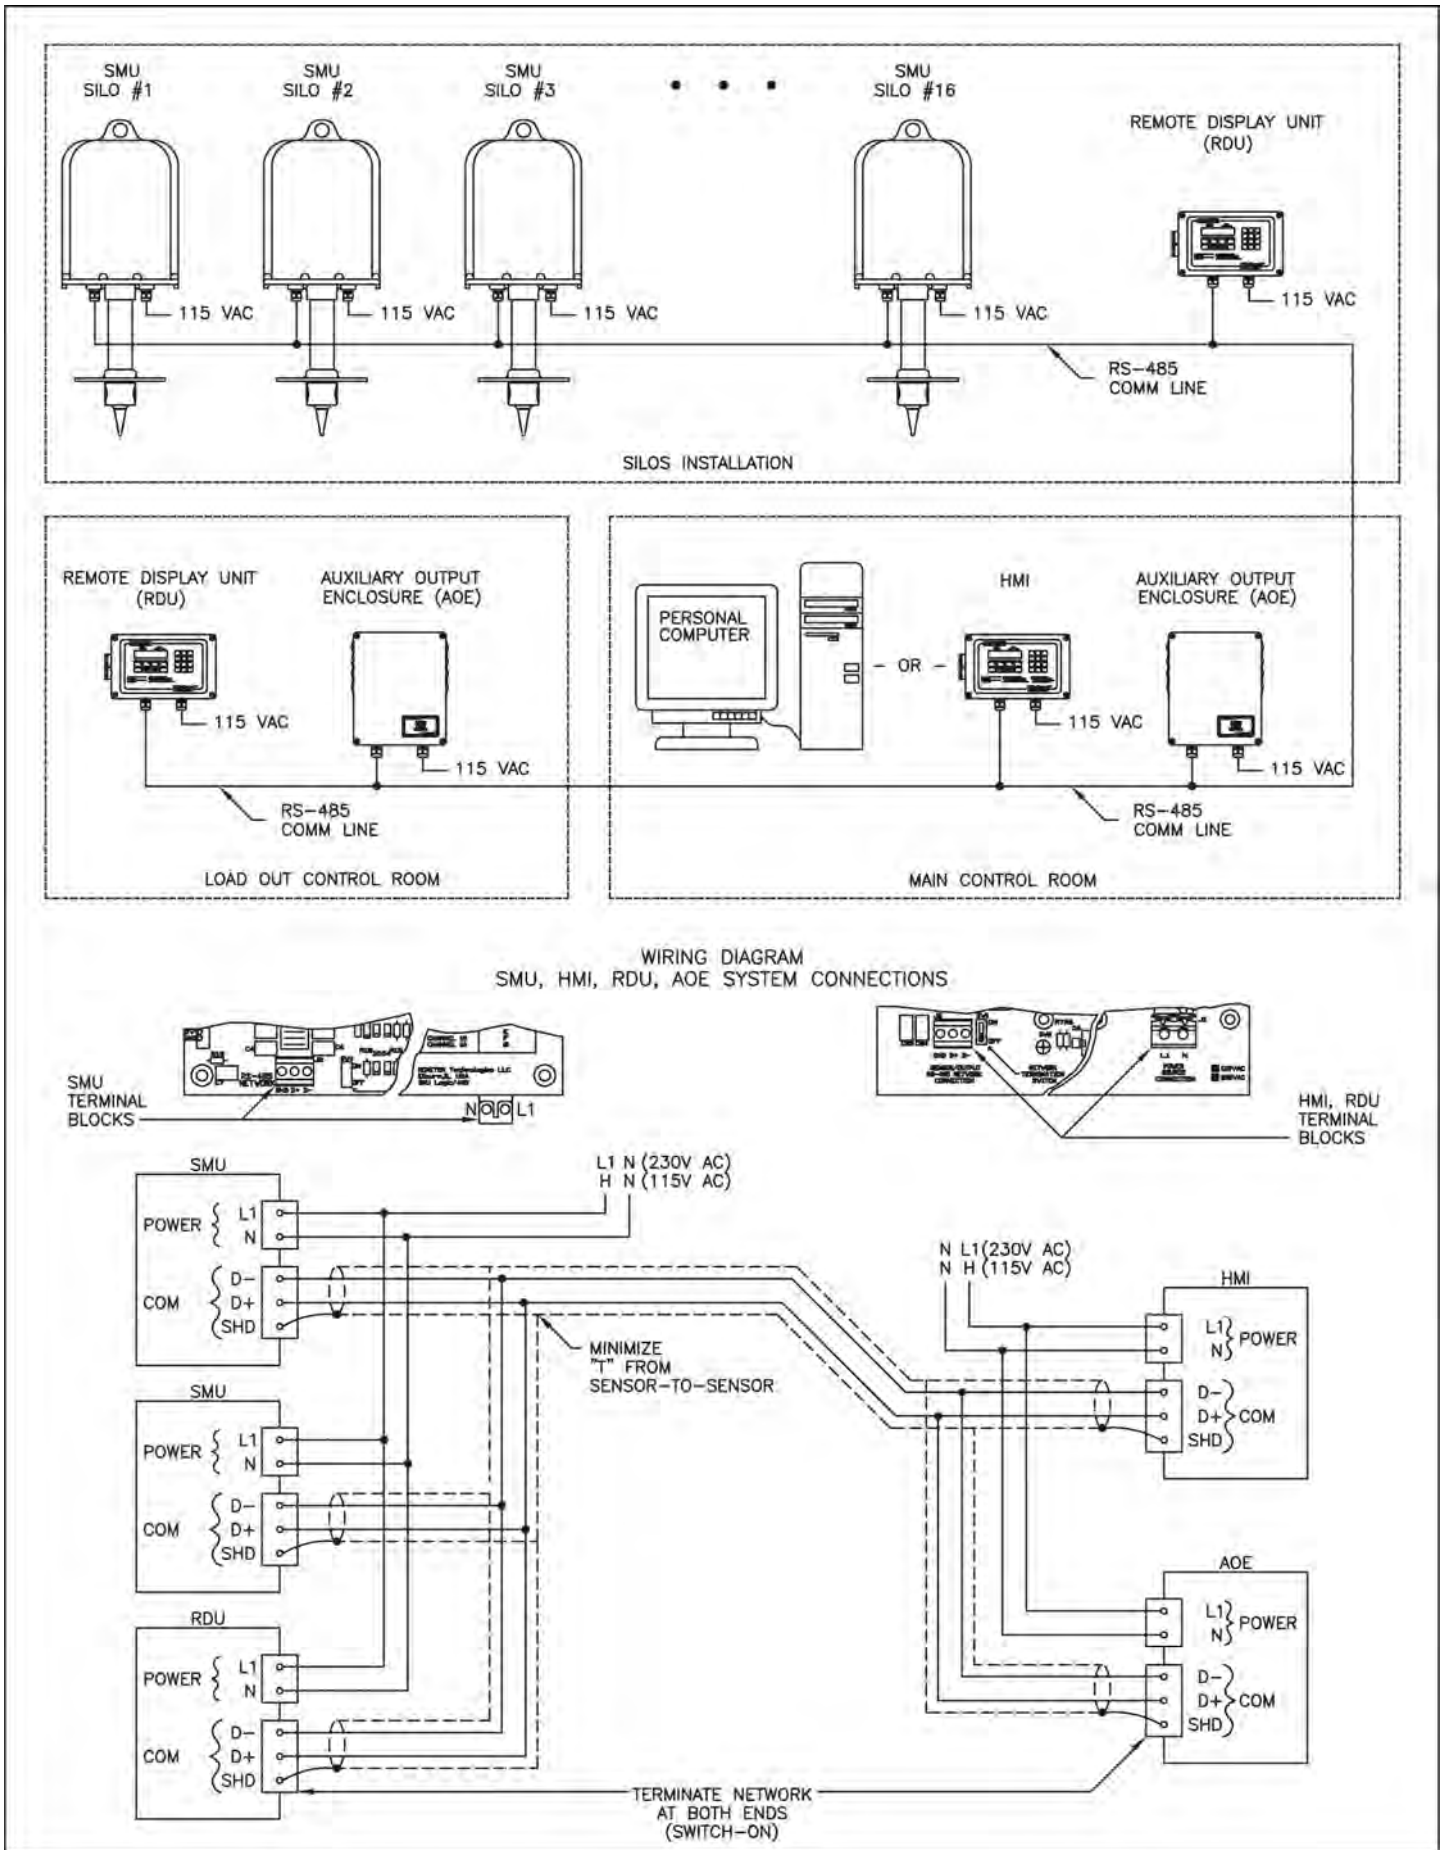

Figure 2
2.2 Electrical Installation (See Figure 2)